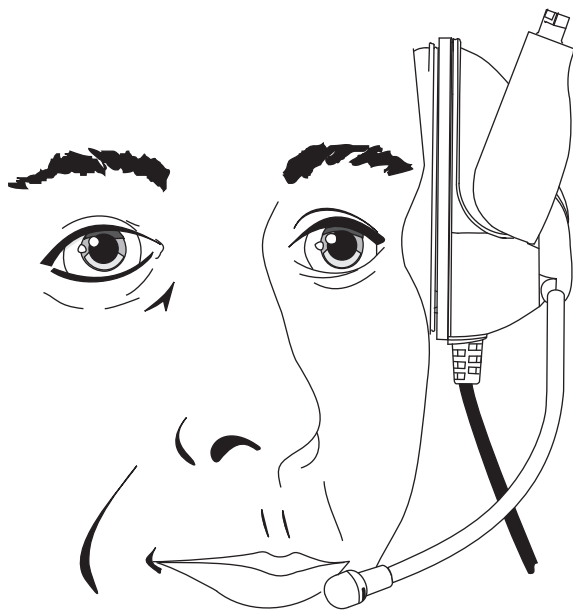

FIGURE 2. Microphone Placement
4. For best noise canceling, position the microphone as close to the mouth as possible with the hole in the microphone housing pointing directly at the mouth and speak in a normal voice. (See Figure 2)